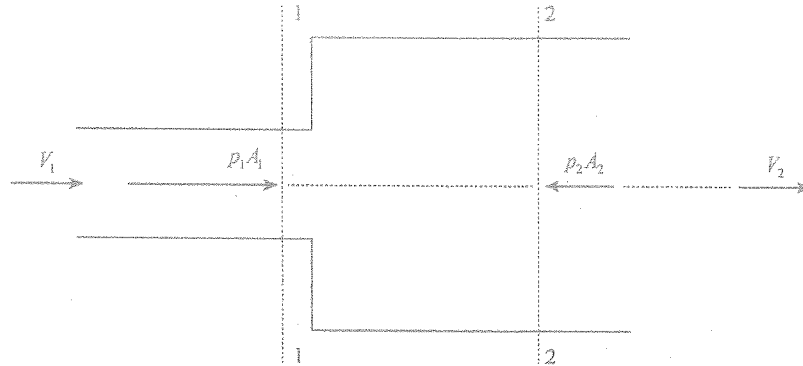

Figure Q4
- Q4. a) Starting with the Bernoulli's equation, derive an equation for the loss of head due to a sudden enlargement in a pipe as shown in Figure Q4.